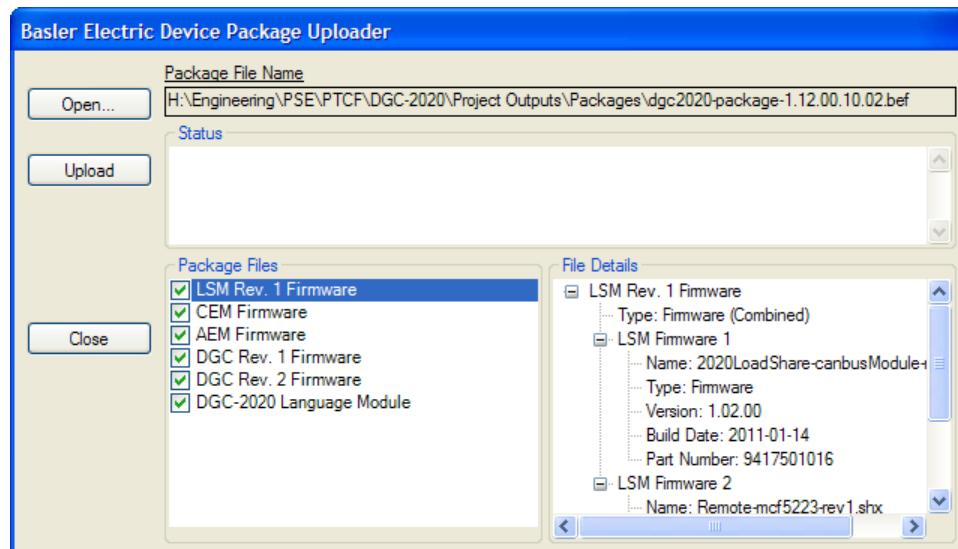

Figure 4-74. Basler Electric Device Package Uploader
7. When the *Basler Electric Device Package Uploader* screen (Figure 4-74) appears, click on the *Open* button to browse for the device package you have received from Basler Electric. The *Package Files* along with *File Details* are listed. Place a check in the boxes next to the individual files you want to upload.